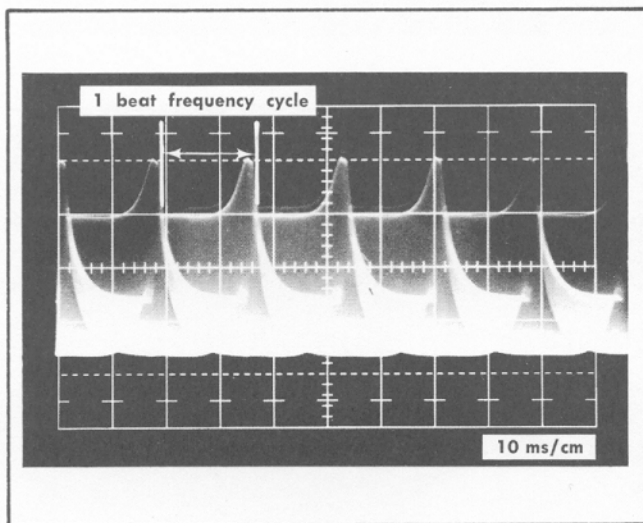

Fig. 5-4. Typical Test Oscilloscope display of beat frequency, step 1.
c. Trigger the Test Oscilloscope display on the beat frequency (difference frequency between the oscillator and the Time Mark Generator). If the beat frequency is less than 1 kHz (greater than 1 cycle per cm), the oscillator is operating correctly. Fig. 5-4 shows a typical display of the beat frequency.